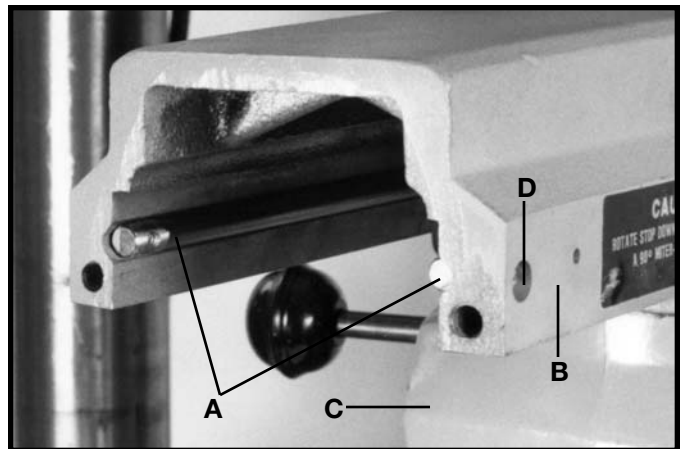

Fig. 41
After a period of heavy use the two track rods (A) Fig. 41, may in time show signs of wear especially where the cuttinghead is used most often in the track arm. If this happens you will have an uneven bearing surface for the cuttinghead bearings.
2. Remove rear plate from track arm (B) Fig. 41.
3. Remove the cuttinghead assembly (C) Fig. 41, from the track arm (B).
4. Remove four screws (D) Fig. 41, one of which is shown, and rotate track rods (A) 180 degrees.
5. Replace track rods (A) Fig. 41, inside track arm (B) and fasten with four screws (D).